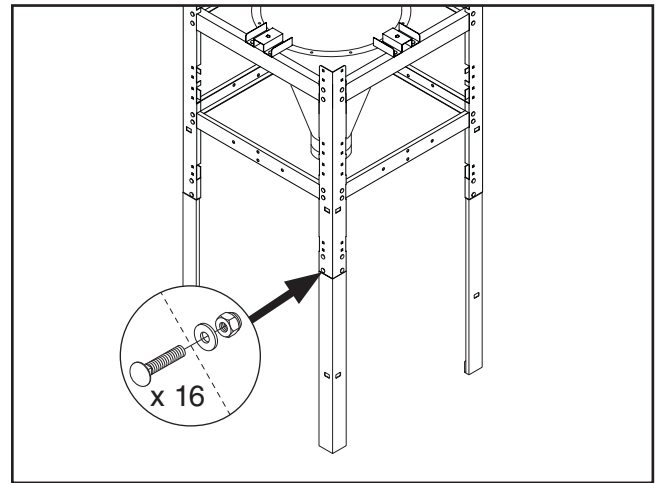

Figure 16. Attaching lower legs to the initial stand assembly.
18. Using forklift, raise assembly up and attach lower stand legs to upper stand legs, as shown in **Figure 16**, with (16) $\frac{5}{16}$ "-18 x $\frac{3}{4}$ " carriage bolts, $\frac{5}{16}$ " flat washers, and $\frac{5}{16}$ "-18 hex nuts.